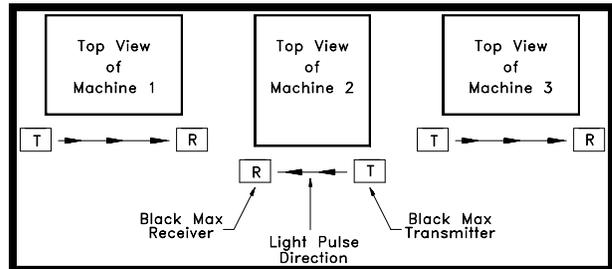

Figure 3.4: Mounting scheme to minimize crosstalk.
6. When Black Max light curtains are to be installed on two or more machines that are arranged in a row, alternate the transmitter and receiver units (as to which unit is mounted on the left and which on the right side of the machine) on each adjacent machine as shown in Figure 3.4 to reduce the possibility of crosstalk. Crosstalk occurs when light pulses from transmitter unit mounted on one machine are "seen" not only by the intended receiver unit, but also by receiver units on other machines. For many infrared light curtains on the market today this creates a danger to operators because their receiver units accept crosstalk pulses just as they accept pulses from the correct transmitter. An operator may have a hand or arm in a light curtain sensing field, blocking light pulses from the transmitter on his machine, and a transmitter on another machine can pass over or under his arm, "fooling" the receiver into not providing a stop signal to
The scheme shown in Figure 3.4 should also be followed when infrared light curtains other than the Black Max are used on adjacent machines.